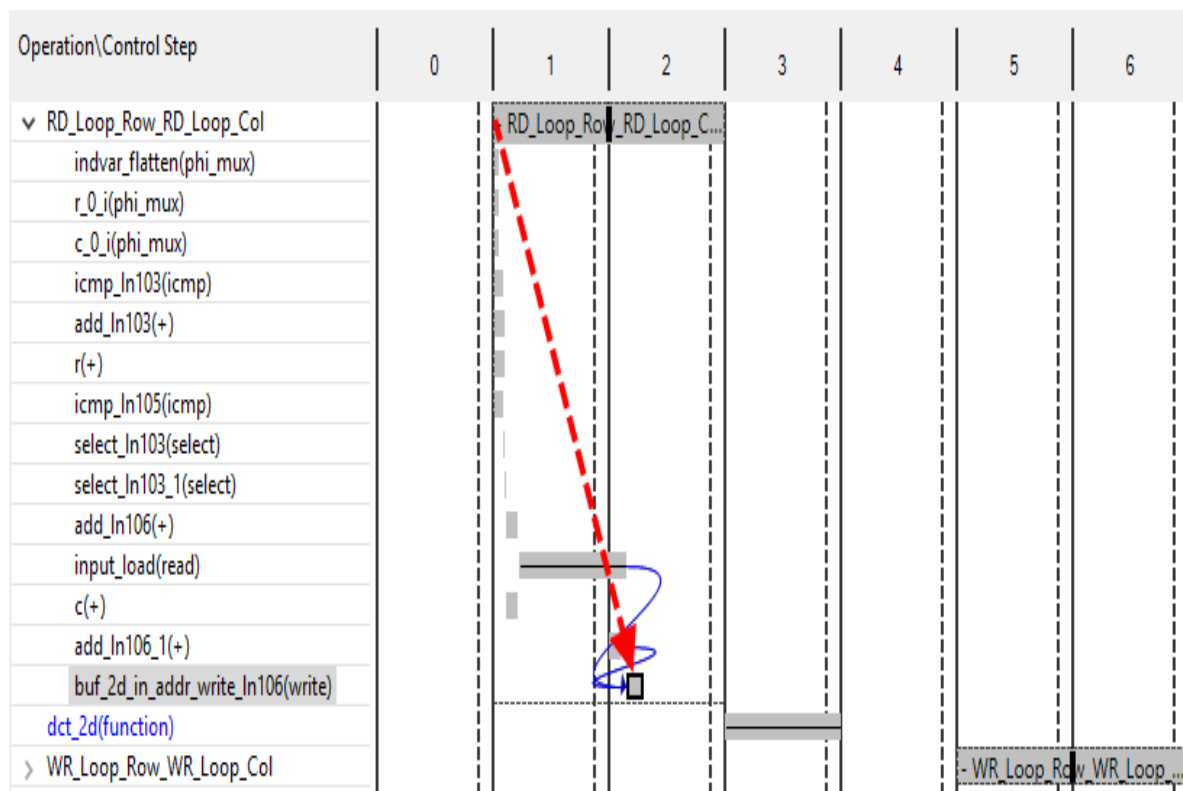

Figure 6-21: Analysis of DCT RD_Loop_Row
9. In the **Performance** view, expand the first loop in the design as shown in Figure 6-21, `RD_Loop_Row_RD_Loop_Col` (these loops were flattened and the name is now a concatenation of both loops).
This loop is implemented in two states. The red arrow in Figure 6-21 shows the path from the start of the loop to the end of the loop: the arrow is almost vertical (everything happens in two clock cycles) and this loop is well implemented in terms of latency.